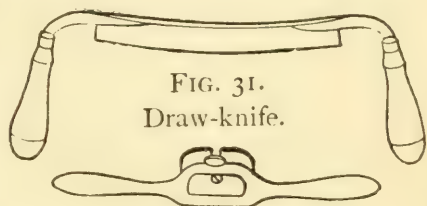

FIG. 31.
**A Draw-knife** (Fig. 31) is handy for quickly reducing a narrow piece of wood in thickness and for cutting curved surfaces. It must be used carefully, however, as it will follow the grain of a piece of wood and is apt to split off more than is desired, as is the danger in *paring* with a hatchet. A